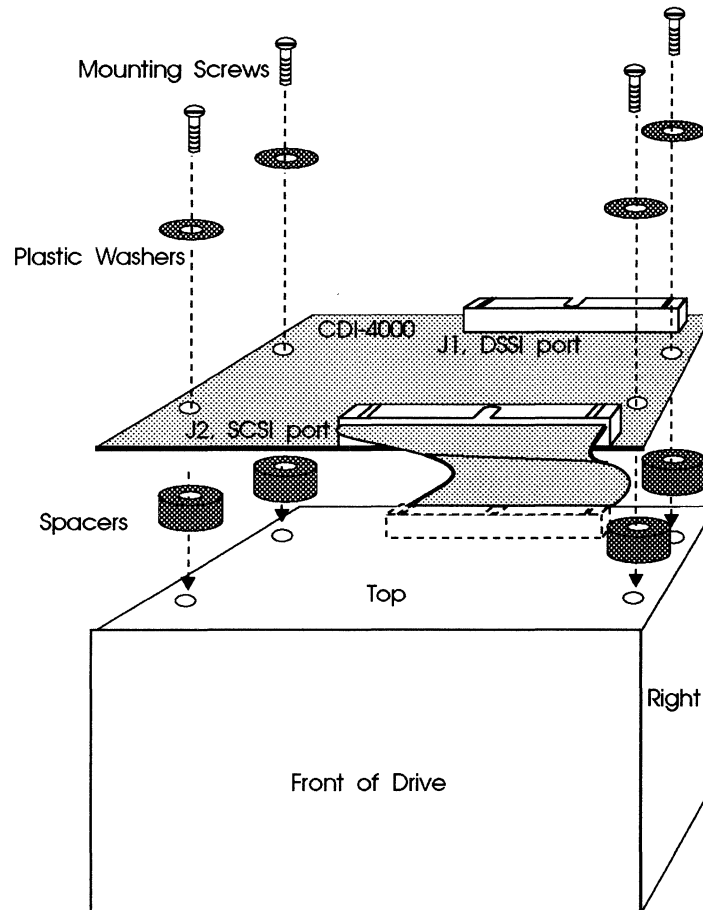

Figure 5-3: Mounting the CDI-4000 onto the drive
- c Put four screws into the drive through the CDI-4000, two on each side. See Figure 5-3.